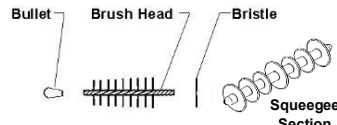

Figure 7 Brush sections that may detach
- Inspect the brush after each use for any detached part as depicted in Figure 7. **If parts are detached or missing, make sure all detached parts are retrieved and properly discarded (see "DISPOSAL" instruction).**